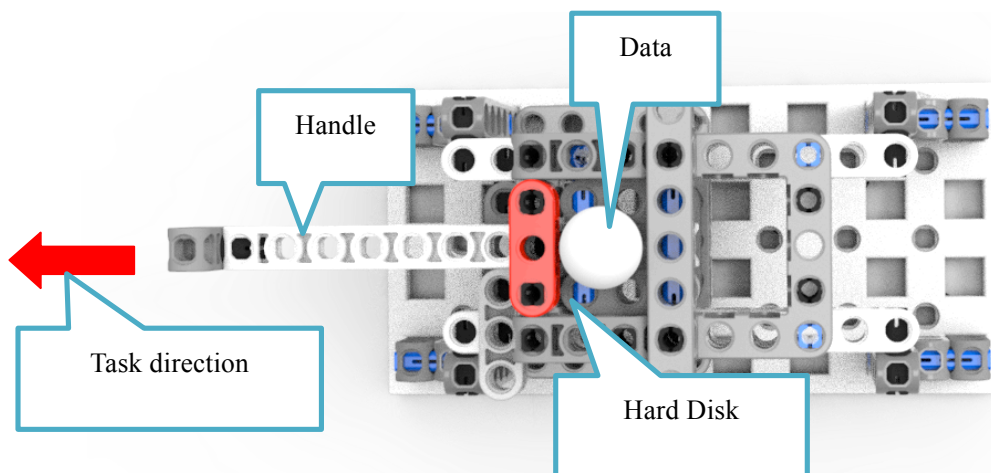

Figure 3-2-1 Data Download Initial Status
3.2.1 Data Downloading task model can be placed from Position 1 to 9 with fixed direction. Data is saved in hard disk whereas the handle is vertical to the red beam, as shown in Figure 3-2-1.